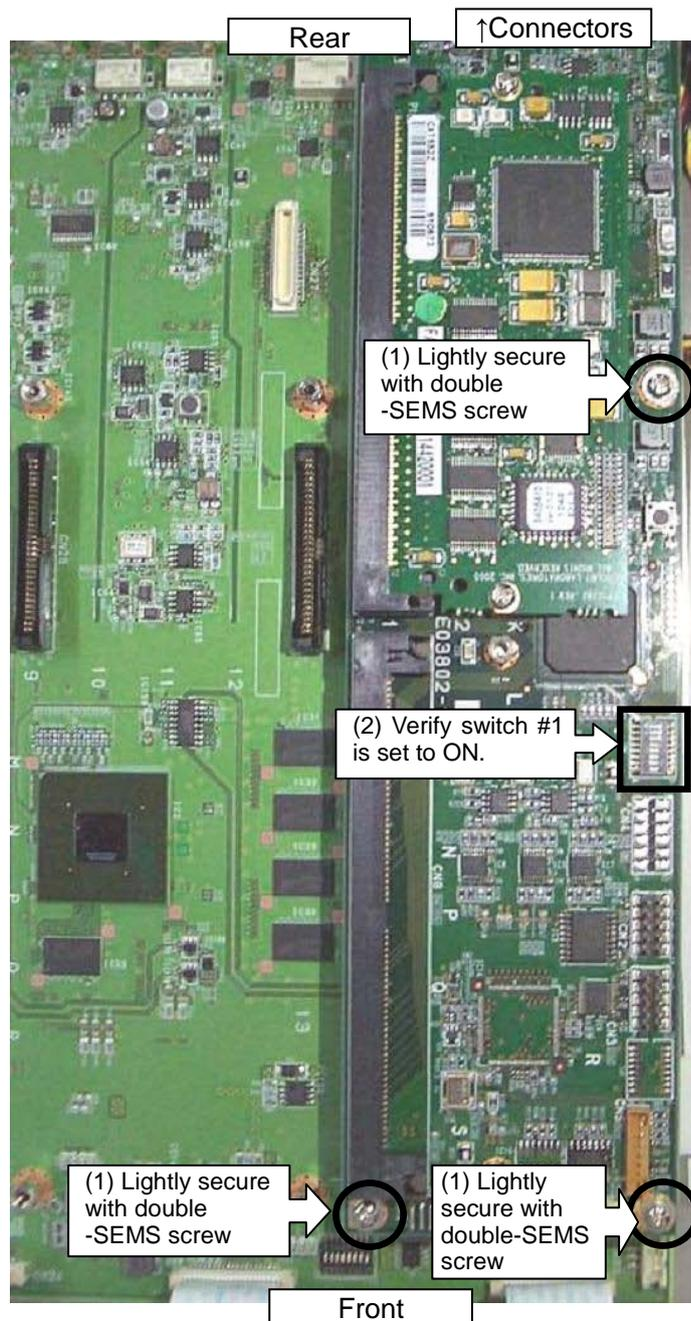
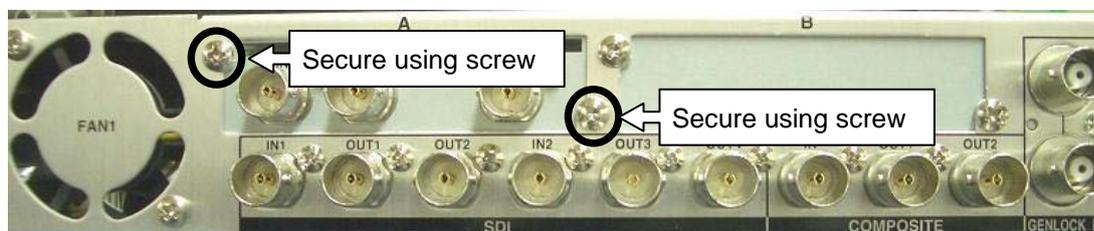

Fig. 13 Dolby Option installation
Fig. 14 Attachment to the rear panel
4. Nest connectors on the option card into the slot, align screw holes, then lightly secure the card with the supplied double-SEMS screws (Fig. 13(1)). Verify that SW2 DIP switch #1 is set to ON (Fig 13 (2)). Secure the option card to the rear panel using the binding screws removed in step 2 (Fig. 14). Tighten all screws.